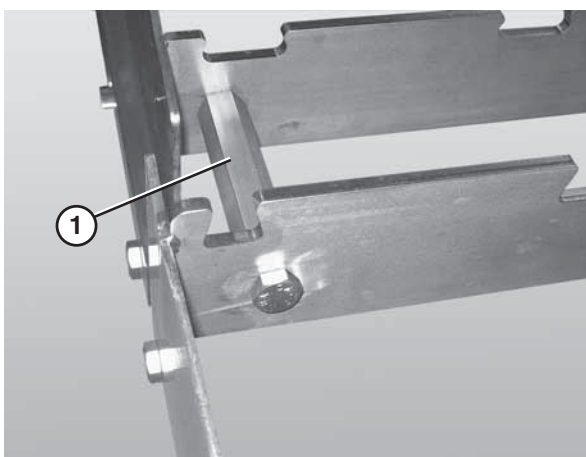

Figure 8
3. Connect the frame sections by bolting the hex post connectors (**Figure 8, item 1**) to the cross member supports of each frame section.